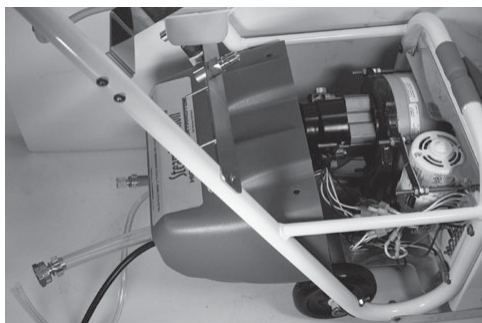

Figure 2
3. Unscrew black thumb knobs from top of engine compartment cover. Lift top of cover straight up off of bolts and pull it back (fig. 2).